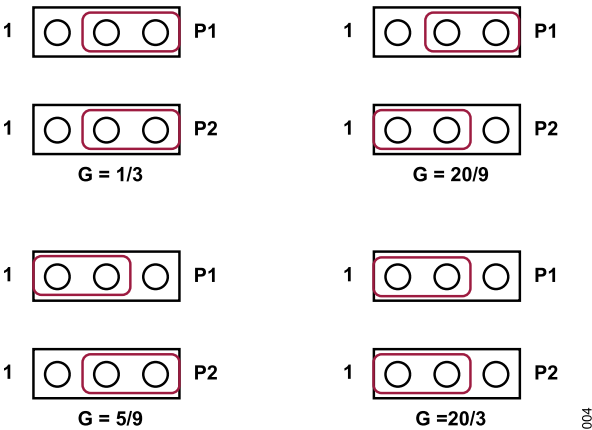
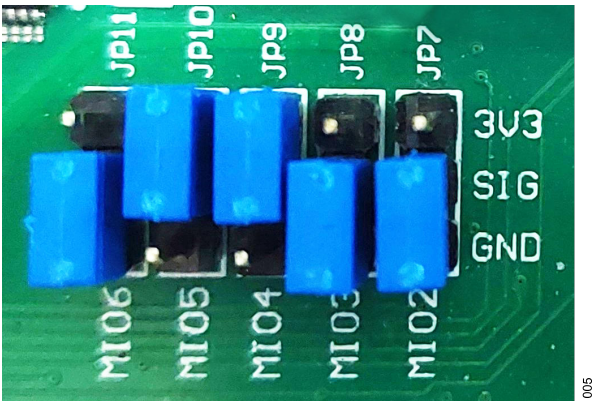
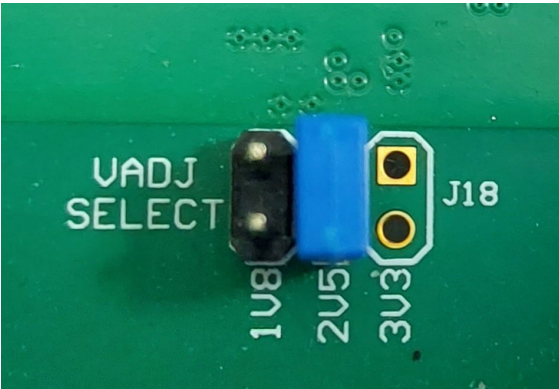

Figure 4. P1 and P2 Settings
Figure 5. Zedboard Boot Link Configuration
Figure 6. Zedboard VADJ Link Setting
Multiple link options must be set correctly for appropriate gain configuration of the EVAL-ADAQ4224-FMCZ board. Table 3 and Figure 4 show the different P1 and P2 link configurations with the corresponding analog front-end gains. Remove R37 and R39 when the gain is manually controlled by P1 and P2 jumpers and not through the software.
Ensure that the Zedboard boot configuration jumpers are set to use the SD card, as shown in Figure 5. To avoid potential issues, ensure that the Zedboard VADJ SELECT = 2.5 V, as shown in Figure 6.
1. Ensure that all configuration links are in the appropriate positions for both the EVAL-ADAQ4224-FMCZ board and the Zedboard. For more details, see Figure 4 to Figure 6.